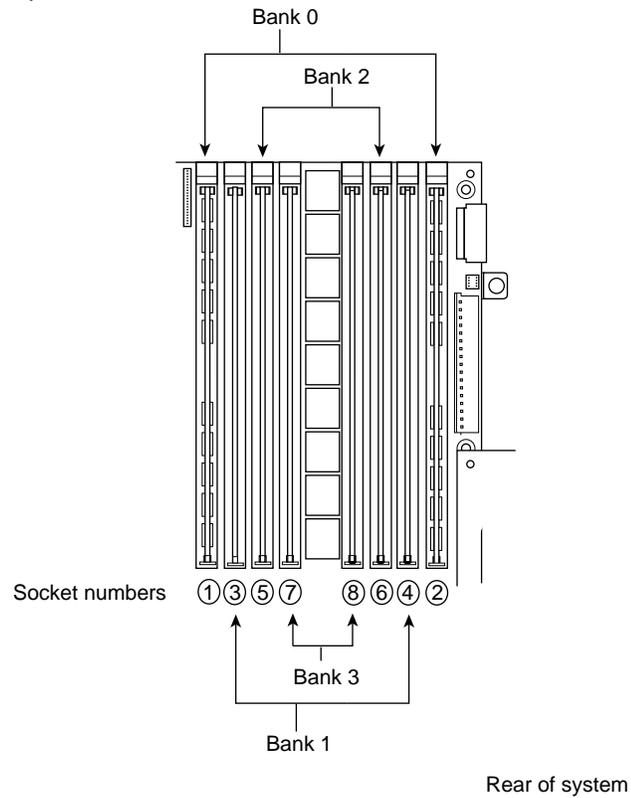

Figure 1-9 Layout of DIMM Sockets on the Origin200 Main System Board
Each Origin200 module can have between 32 MB and 2 GB of memory, depending upon the type of dual inline memory module (DIMM) that you install. DIMMs are installed in sockets that are grouped into two banks of four sockets each. Figure 1-9 shows the layout of the DIMM sockets on the main system board.
- DIMM sockets are numbered as shown in Figure 1-9: 1, 3, 5, 7; 8, 6, 4, 2.